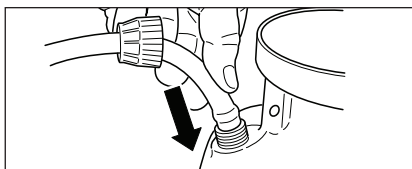

Figure 1. Install Hose
1. Install the dip tube into the tank barb opening and push the hose barb into the tank until it stops. Make sure hose barb tabs are properly seated in the tank barb recess. See Figure 1.